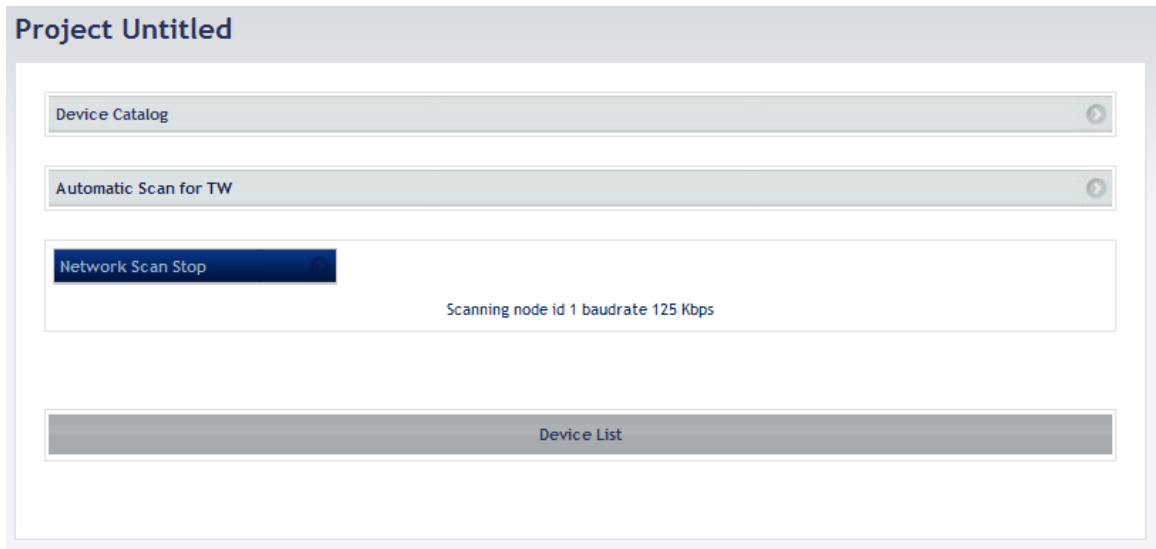

Figure 19 – Start network scan
- Make sure the cables physical connections are ready. Then press the “Network Scan Start” bar, the automatic scan is running with the selected baudrate and the node id range from 1 to 127 in Figure 19.